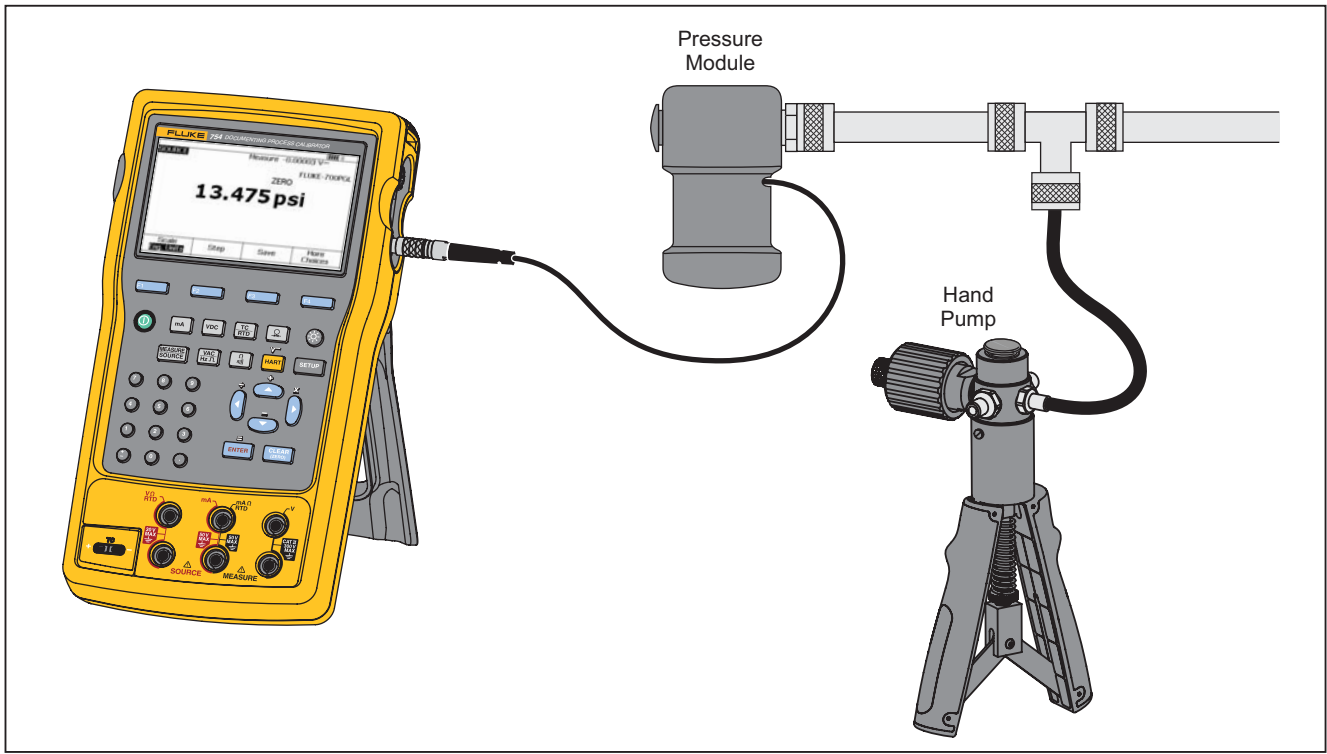

Figure 21. Connections to Source Pressure
The Product has a source pressure display function where an external pressure hand pump is necessary. Use this function to calibrate instruments where a pressure source or differential pressure measurement is necessary. See Figures 21 and 36 for information about that application.
To use the source pressure display, see Figure 21:
1. Connect a pressure module and pressure source to the Product as Figure 21 shows. The threads on the pressure modules accept 1/4 NPT fittings. Use the supplied 1/4 NPT to 1/4 ISO adapter if necessary.